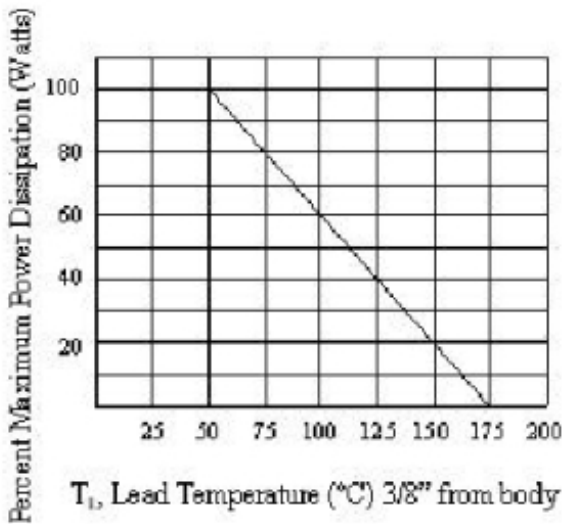

Figure 1. Zener Power Derating Curve
A typical printed circuit board (PCB) can often exhibit a mounting thermal resistance (R(LA) to an axial lead or surface mount diode of 30 to 50 (C/W, unless further provisions are made for better heatsinking. This can be provided with larger copper foot print areas or runners, lower thermal resistance board material, or moving air to help dissipate heat by radiation and convection. For example, PCB design is critical to minimize TL on 5 watt rated zener diodes typically exhibiting 25 (C/W (R(JL) at the typical 3/8 inch (10mm) lead length. Zeners are usually derated from full power starting at lead (or case) mounting temperatures of 50 to 75(C. This is required to maintain junction temperature at or below 175 to 200(C as displayed in Figure 1.